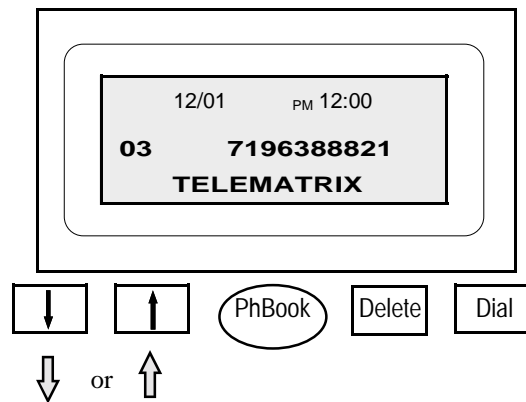

Figure 1
1. Press the **“↑”** or **“↓”** key to activate stored memory. The LCD screen will display a record. Scroll to the caller record to be placed in the Phonebook (figure 1).